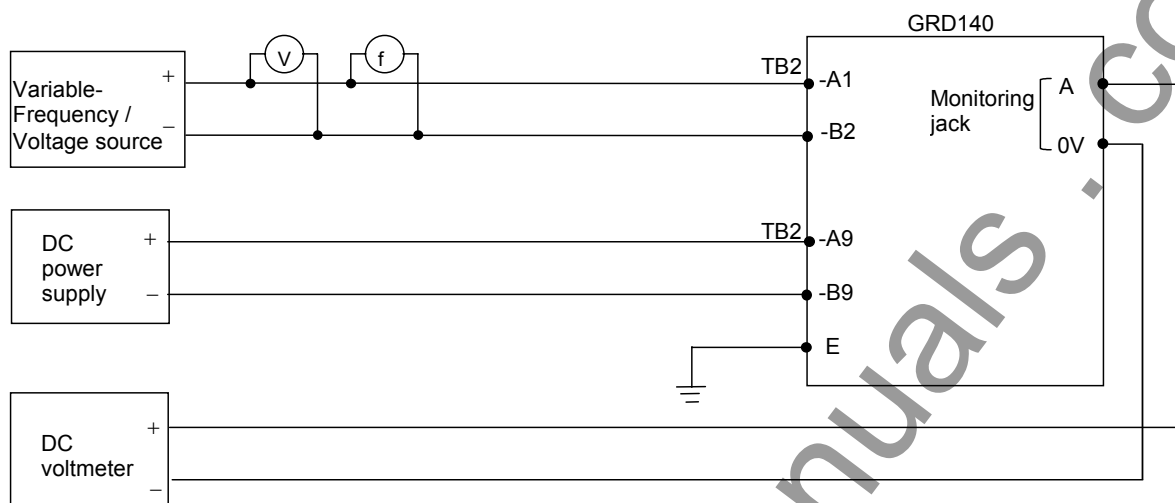

Figure 6.5.10 Operating Value Test Circuit
The testing circuit is shown in Figure 6.5.10.
- Apply a rated voltage and frequency as shown in Figure 6.5.10.